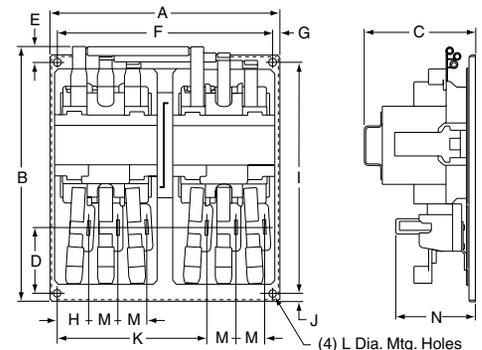

Figure 4: Class 8810 NEMA Size 5 and 6
- ▲ Consequent pole type starters consist of two 3-pole starters as pictured in Figure 4 and an additional 2-pole shorting contactor (not shown), all on a common baseplate, horizontally mounted.